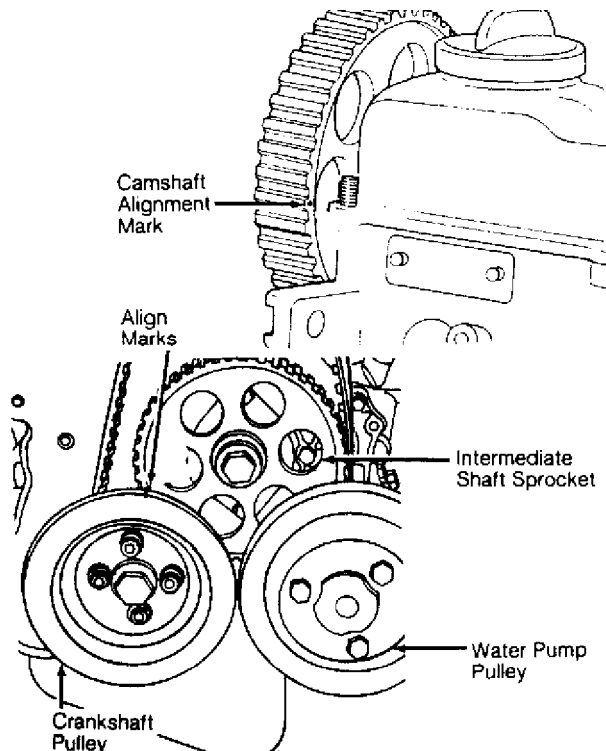

Fig. 8: 8-Valve Timing Mark Alignment
2) With intermediate shaft/ignition rotor positioned, rotate crankshaft and align mark on crankshaft pulley with mark on intermediate shaft sprocket. Position camshaft sprocket mark even with valve cover surface. See Fig. 8. Install timing belt.